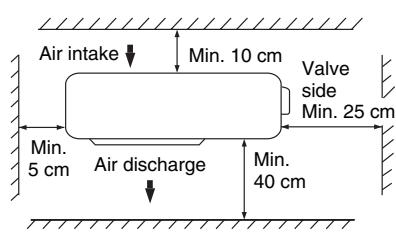

Fig. 4a
- allow enough room around the unit for air intake/exhaust and possible maintenance. (Figs. 4a and 4b)